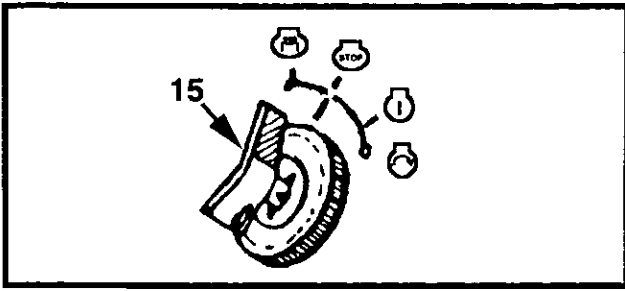

Figure 4-10 Ignition Switch
10. With brake applied, turn ignition switch key to  position (Figure 4-10).
11. Return ignition switch key to  position (Figure 4-10).
- 5a. When starting in very cold temperature conditions, initially turn the ignition key to Preheat position  (Figure 4-10), for 20 seconds, then turn to the engine start position .
- 5b. When normally starting a cold engine, use the excess fuel control by pulling out the control knob located on the right face of the engine canopy, Start engine by turning ignition switch key to  position (Figure 4-10). Once engine starts, release switch immediately, and it will return to  position (Figure 4-10).